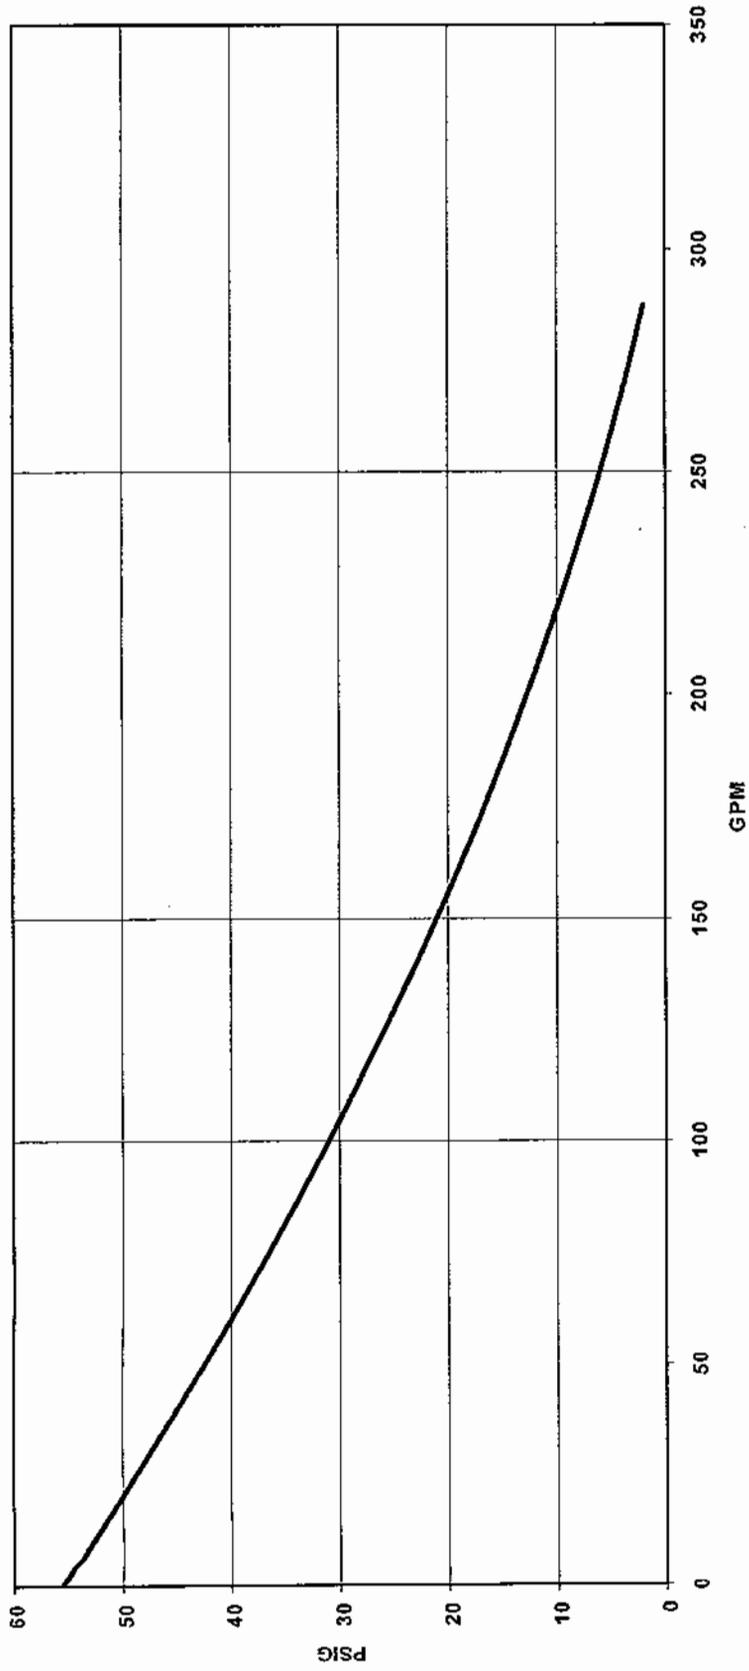

Figure D-12. KMA333 Pump Curve for 17,000 cSt. Viscosity. The MPC KMA 333 is a pump in the U.S Navy POL off-loading kit.
- Figure D-12 KMA333 Pump Curve for 17,000 cSt. Viscosity